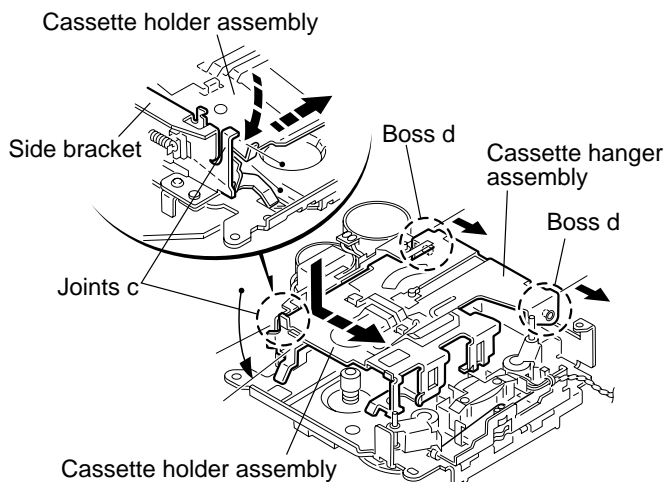

Fig.4
■ Removing the cassette hanger assembly / cassette holder (See Fig.4 to 7)